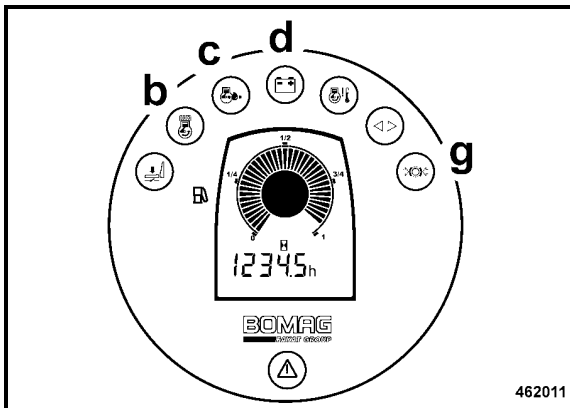

Fig. 57
All control and warning lights (Fig. 57) in the instrument cluster light up for approx. 3 seconds.
- With cold ambient temperatures hold the ignition key up to 10 seconds in position "II"; the preheating control light (b) (Fig. 57) lights up.